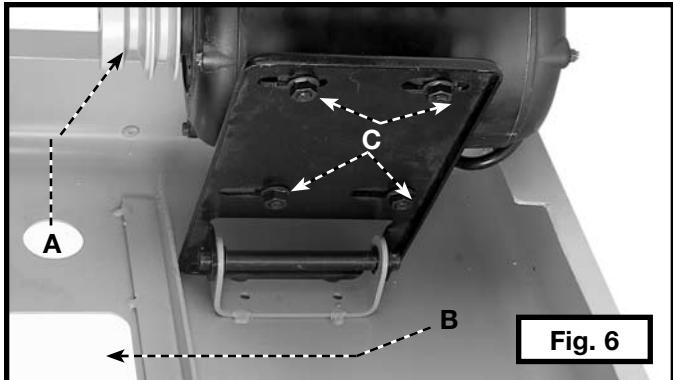

Fig. 6
5. Align the four holes on the motor bracket with the four holes (C) Fig. 6 on the motor mounting plate.
NOTE: Confirm that the motor pulley (A) Fig. 6 is mounted on the same side as the belt opening hole (B).